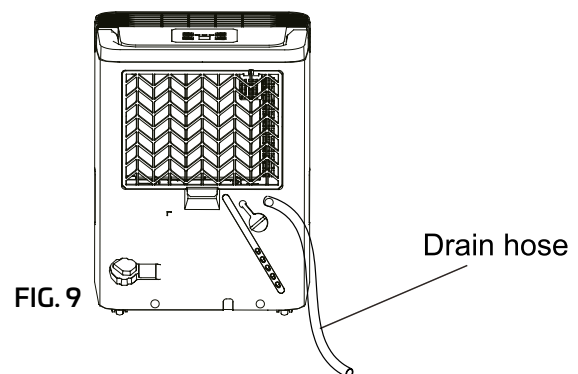

FIG. 9
- Remove the rubber plug from the back drain hose outlet. Attach a drain hose (ID=13.5mm) and lead it to the floor drain or a suitable drainage facility (see Fig. 9).